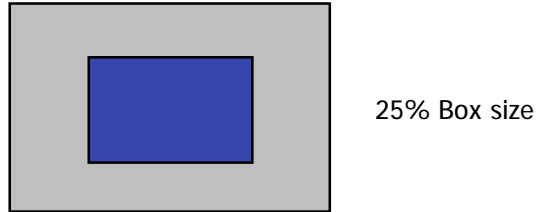
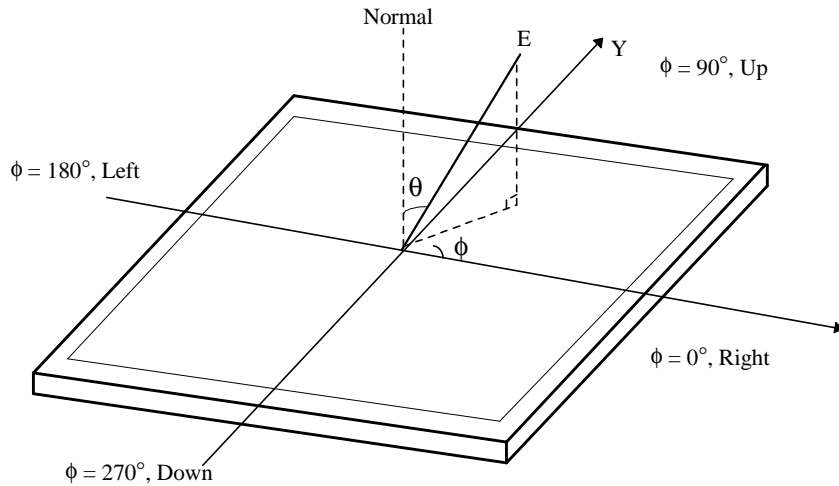

FIG. 3 Color Shift Test Pattern
FIG. 4 Viewing angle
FIG 3 presents additional information concerning the measurement equipment and method.
[FIG 3] Optical Characteristic Measurement Equipment and Method
5. Color shift is the angle at which the average color difference for all Macbeth is lower than 0.02. For more information see FIG 3 and FIG 4. (By EZ Contrast)
6. Viewing angle is the angle at which the contrast ratio is greater than 10. The angles are determined for the horizontal or x axis and the vertical or y axis with respect to the z axis which is normal to the LCD surface. For more information see FIG 4. (By PR880)